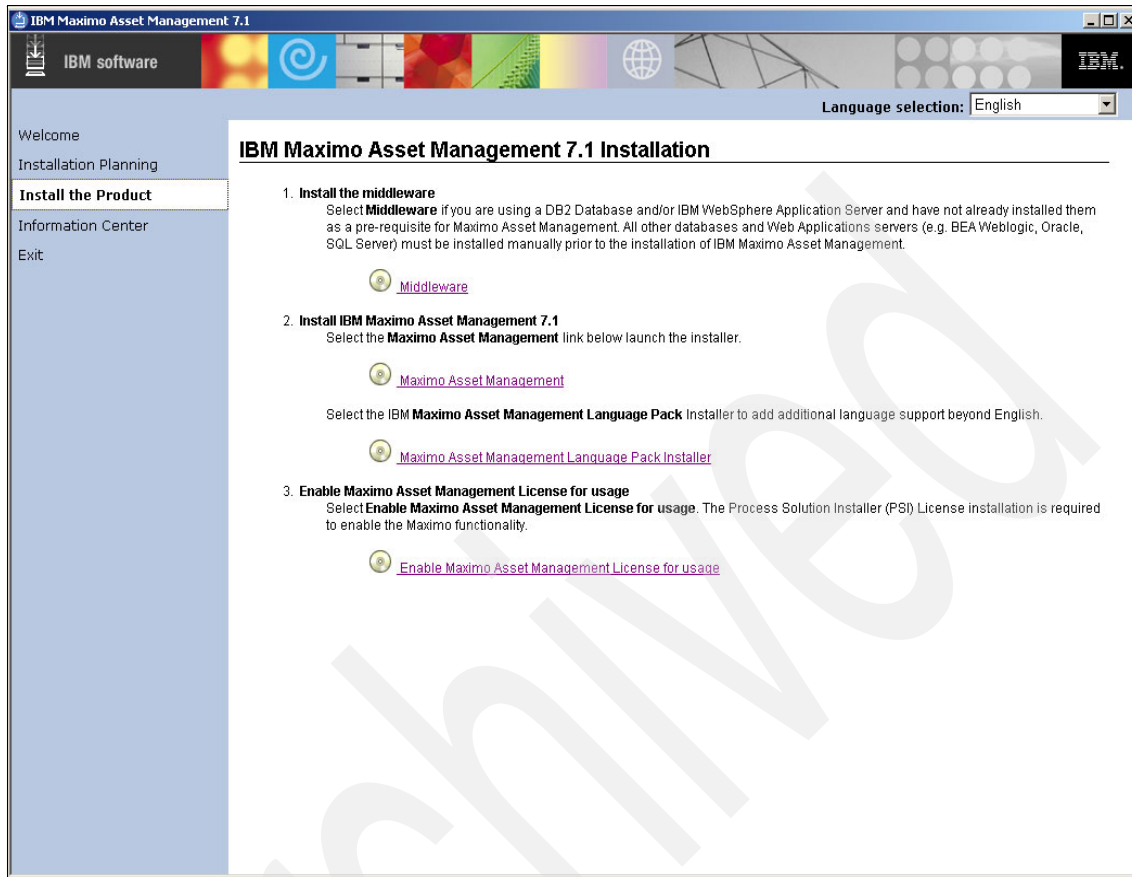

Figure 5-9 Launchpad
1. Log on as a user with administrative authority. Launch the middleware installer from the launchpad (see Figure 5-9 on page 81). In the launchpad navigation pane, click **Install the Product** → **Maximo Asset Management**.